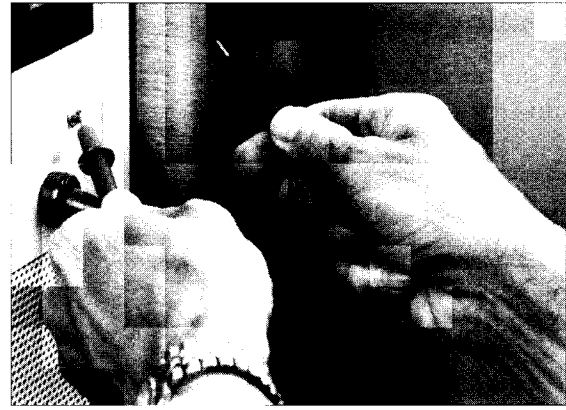

Figure 35
- a. Place test probes on plug's ground blade (round) and cord's ground screw on side of control panel (see Figure 35). If multimeter's needle does not swing to zero ohms, cord is not grounded properly and is defective.